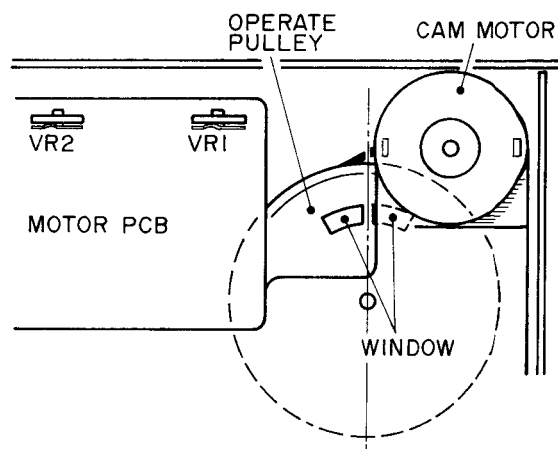

Fig. 8-2 Position of Operate Pulley in STOP Mode
- Adjust VR1 slightly so that a center line between windows of the operate pulley will face directly above during STOP Mode. (Fig. 8-2)